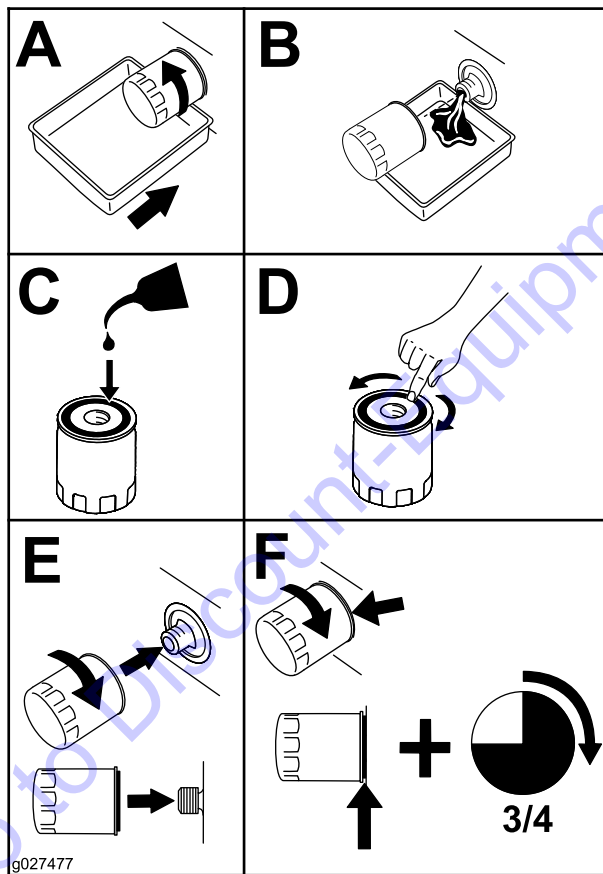

Figure 54
3. Replace the filter as shown in Figure 54.